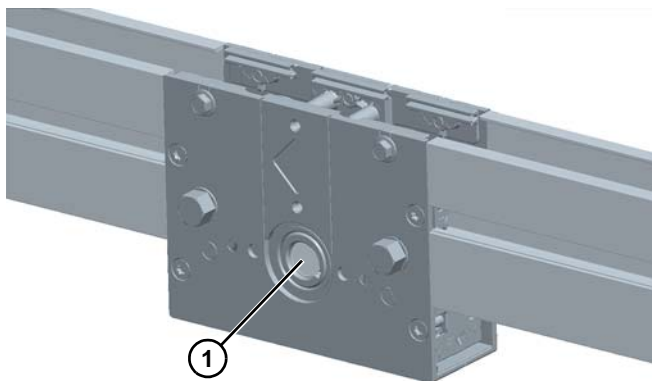

Figure 36
- Using a punch and hammer, carefully tap the shaft (**Figure 36, item 1**) out of the mid drive assembly.